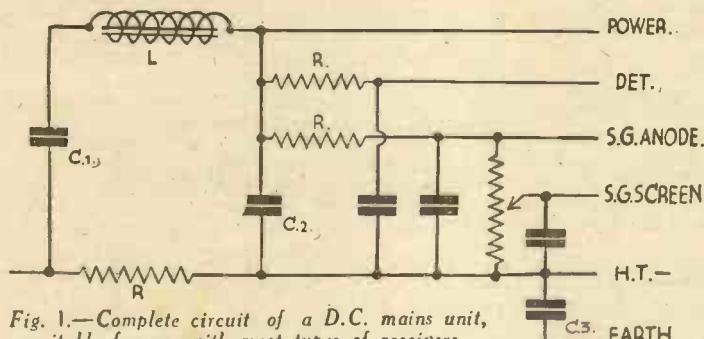

Fig. 1.—Complete circuit of a D.C. mains unit, suitable for use with most types of receivers.
and therefore the design of a unit for direct-current mains is the simplest proposition, and we will tackle that first. Fig. 1 shows the complete circuit of a D.C. mains-unit for deriving high-tension current from the mains and providing four separate tappings, including a variable one for the S.G. valve. One might think that as direct current is required for the valves, and current supplied through a D.C. main is already "direct," it would merely be necessary to break down the input to the voltage required by the valves. Unfortunately, this certainly is not so! The mains current is never *true* direct current, and in some localities, particularly where the supply is derived from mercury-arc rectified A.C. there is a very considerable percentage of residual alternating current superimposed on the D.C., which if allowed to reach the anodes of the valves would make its presence felt in the shape of a devastating mains hum! In order to remove this A.C. component we use a combination of chokes (L) and condensers (C) which filters the alternating current from the direct current, and thus converts the irregular mains current to a *smooth* direct current suitable for the valves. The choke consists of a large number of turns of fine wire wound on a bobbin, and surrounded by iron laminations (called the core). To explain fully the action of the choke is somewhat beyond the scope of this article, but, in short, it may be said that this component acts on the principle that when an alternating potential difference is applied to a circuit possessing "self-inductance" (as any winding does), the variation of the resultant magnetic flux sets up an alternating electro-motive force which tends to choke back the current, at the same time causing the current to lag in phase behind the applied
The two condensers (marked C1 and C2 in Fig. 1) are shunted in parallel with the mains, one before the choke and one after, and these must have a capacity of not less than 4 mfd. each and, of course, must be capable of withstanding the full mains input. These condensers act more or less as reservoirs, and are, in fact, termed "reservoir condensers," accepting the irregular flow of current and feeding it out in the form of smooth current. The condensers also act in some measure as "by-pass" condensers, putting up an effective barrier to the passage of direct current, but providing a low impedance path to earth for the alternating currents. Quite a good analogy to the "reservoir condenser" is afforded by an ordinary low-tension accumulator which is being trickle-charged at the same time as it is feeding the filament circuit of the set. Under these conditions, the accumulator accepts the unsmoothed and irregular D.C. supply from the trickle, but feeds it out in the form of a perfectly
dropping resistance and by-pass condenser on each tapping, as is clearly shown in Fig. 1. The decoupling effect is obtained in this manner. The resistances not only regulate the voltages, but they also offer a high impedance to H.F. currents, which are conveniently disposed of by providing for them a low-impedance path to earth through the by-pass condensers connected between the low-potential end of the resistances and the negative side of the unit. The formula already given for computing the value of the mains resistance is also used for calculating the values of the various voltage-dropping resistances. It will be observed that the feed for the screen of the S.G. valve is obtained from the slider of a potentiometer (which is also by-passed). The current required by the screen is very small (less than 1 milliamp) and, with an ordinary variable resistance in this position, the voltage would tend to fluctuate considerably, and as some S.G. valves are very fussy—even to within a few volts—of the voltage applied to the screen, we cannot ensure optimum working conditions with a fixed resistance. The potentiometer arrangement overcomes both difficulties, providing a steady but easily adjustable voltage output. Perhaps it should be mentioned that all by-pass condensers should have a capacity of not less than 2 mfd. The condenser marked C3 in Fig. 1 is absolutely essential. A moment's thought will make it clear that the negative line of the unit, and of course the receiver, is connected directly to the negative side of the supply main, and consequently, if a direct earth were connected to the set or to the unit, one would—in effect—be connecting the negative main to earth. A very high current would immediately flow through the mains-resistance in the unit, causing this component to overheat and give up the ghost—this is the least damage one could expect! In order to overcome this difficulty the installation is earthed through the condenser, thus isolating the mains from earth, but at the same time retaining a path to earth for the speech currents. This isolating condenser is usually included in the unit by the manufacturers, and that is the reason that